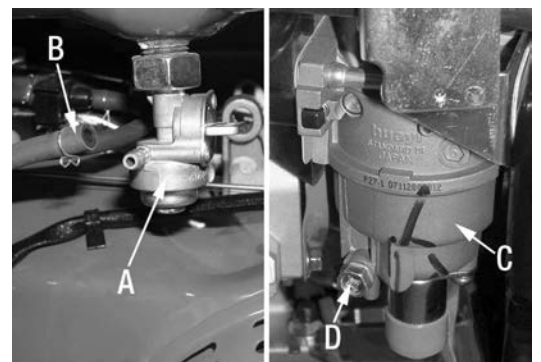

Figure 19
- 3) Turn fuel shut-off valve (A) Fig.19 to the "OFF" position.
- 4) Disconnect the fuel hose (B) from the fuel shut-off valve.
- 5) Turn fuel shut-off valve to the "ON" position and drain fuel from tank. Pivot the fuel shut-off valve outwards to simplify the task as shown in Fig.19.
- 6) Remove drain hex. bolt (D) from the carburetor (C) and drain the rest of the fuel found inside the carburetor and hose.